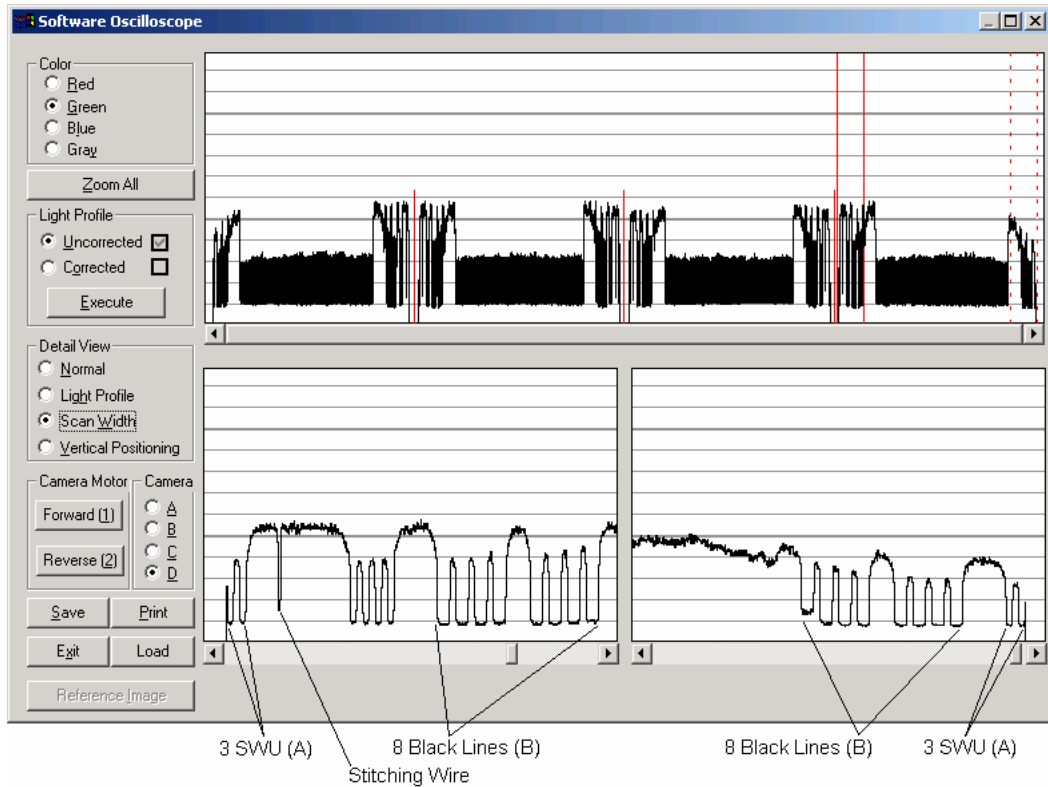

Fig. 4-29 MAGNUM XL 54, Scan-Width, Camera D
- Fig. 4-29 MAGNUM XL 54, Scan-Width (D), page 107